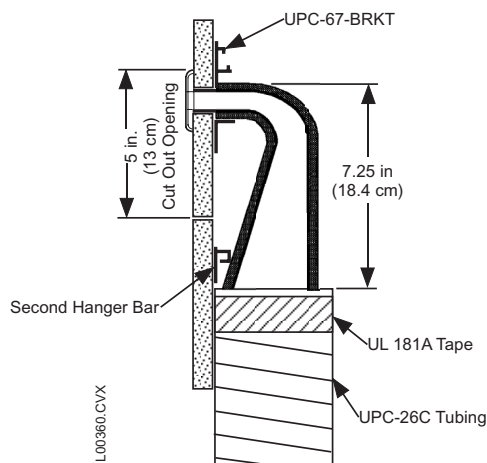

Figure 3. Existing Wall Cut-out Opening, 90° Outlet
Figures 3 and 4 show typical wall installations. Insert one of the hanger rails in the slotted channel on the backside of the mounting plate. Expand the hanger rails to reach the studs and nail securely so the mounting plate will be flush with the backside of the dry wall when it is installed. The UPC-66 and UPC-67A have a tendency to
**Ceiling Mount Special Installation:** Install the tubing parallel to attic rafters to prevent any sharp bends in the tubing run near the outlet unless there is room to have at least a 6-inch (15-cm) or more radius for the tubing connected to the outlet (see Figure 3). For dropped ceilings, extend the hanger rails the width of the ceiling tiles.